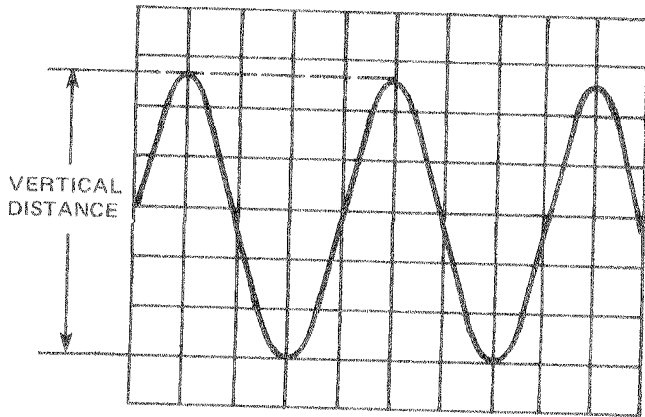

Figure 2-9. Peak-to-peak Voltage Measurement
2. Adjust the TIME/DIV switch (17) for two or three cycles of waveform, and set the VOLTS/DIV switch (10) for the largest-possible totally on-screen display.
3. Use the appropriate Vertical Position control (13) or (14) to position the negative signal peaks on the nearest horizontal graticule line *below* the signal peaks, per Figure 2-9.
4. Use the Horizontal Position control (20) to position one of the positive peaks on the central vertical graticule line. This line has additional calibration marks equal to 0.2 major division each.
5. Count the number of divisions from the graticule line touching the negative signal peaks to the intersection of the positive signal peak with the central vertical graticule line. Multiply this number by the VOLTS/DIV switch setting to get the peak-to-peak voltage of the waveform. For example, if the VOLTS/DIV switch were set to 2V, the waveform shown in Figure 2-9 would be 11.2V p-p (5.6 div X 2V).